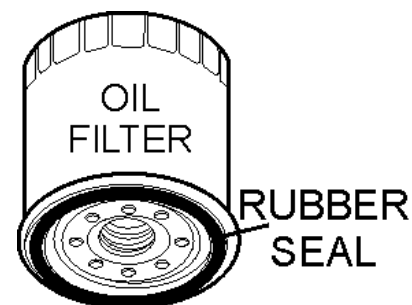

Figure 33. Oil Filter
1. Replace the engine oil filter (Figure 33) every 200 hours.